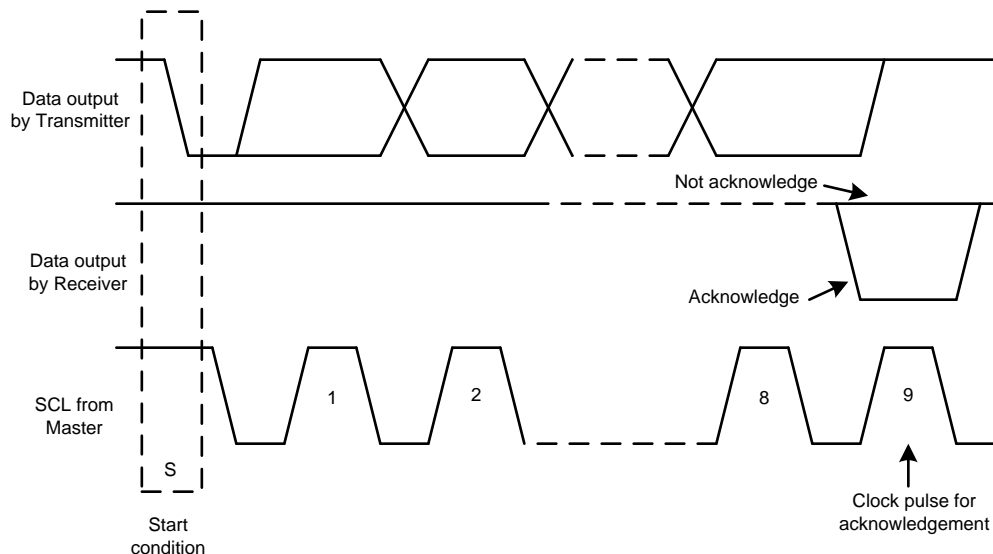
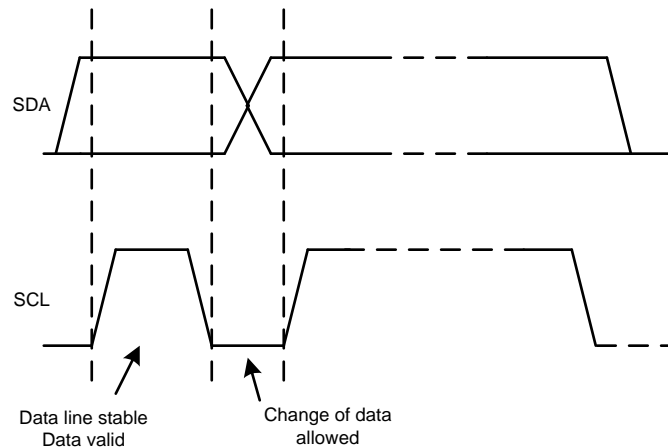

Figure 56. Acknowledge and Not Acknowledge on the I²C™ Bus
Figure 58. Bit Transfer on the I²C™ Bus
Other than specific timing signals, the I²C™ interface works with serial bytes. At the end of each byte, a ninth clock cycle generates and detects an acknowledge signal. Acknowledge is when the SDA line is pulled low during the high period of the ninth clock cycle. A not-acknowledge is when the SDA line is left high during the high period of the ninth clock cycle as shown in Figure 56.
2. The master then generates the SCL pulses, and transmits the 7-bit address and the read/write direction bit (R/W) on the SDA line. During all transmissions, the master ensures that data is valid. A valid data condition requires the SDA line to be stable during the entire high period of the clock pulse, as shown in Figure 58. All devices recognize the address sent by the master and compare it to their internal fixed addresses. Only the slave device with a matching address generates an acknowledge by pulling the SDA line low during the entire high period of the 9th SCL cycle, as shown in Figure 56 by pulling the SDA line low during the entire high period of the 9th SCL cycle. Upon detecting this acknowledge, the master knows the communication link with a slave has been established.